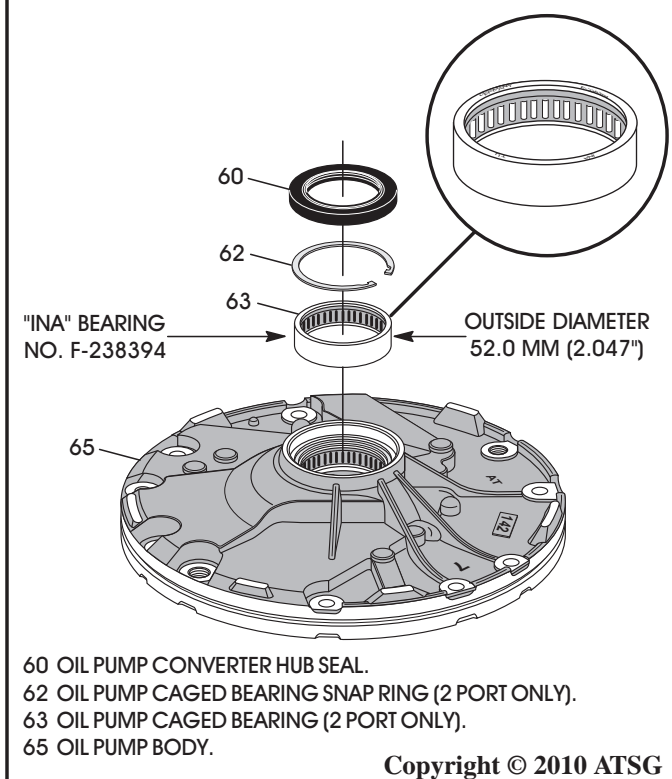

Figure 156
6. Install new caged needle bearing as needed with the numbers on bearing **facing up**, as shown in Figure 156 (2-Port models only).
8. Install new converter hub seal into pump body, as shown in Figure 156 and/or 157 using the proper seal driver.